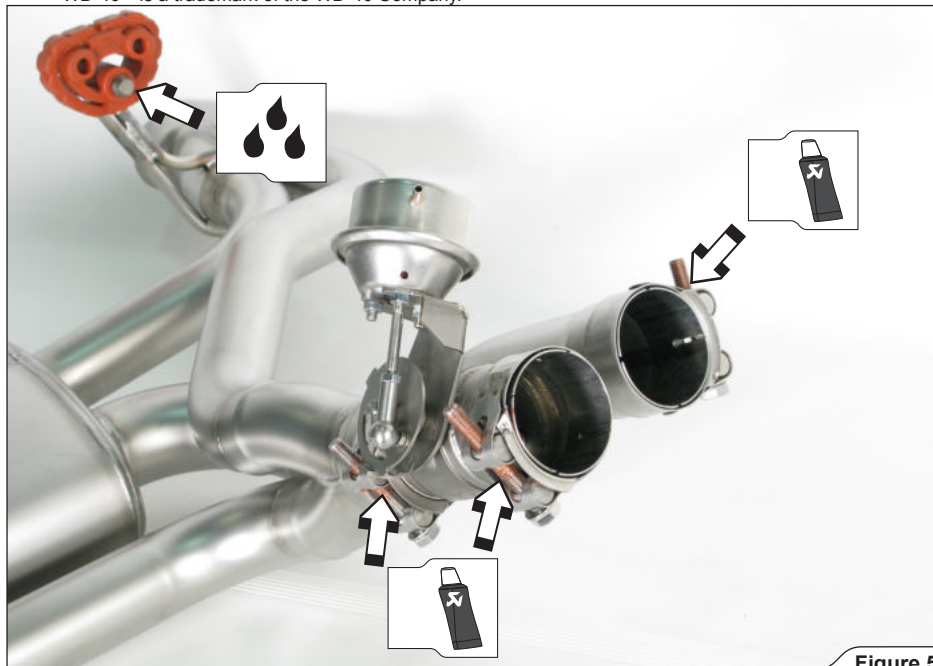

Figure 5
2. **For optional wireless kit only:** assemble the clamps and link pipe with exhaust valve onto the muffler's inlet pipes and original left rubber bracket onto the Akrapovič muffler's left bracket, as shown (Figure 5).